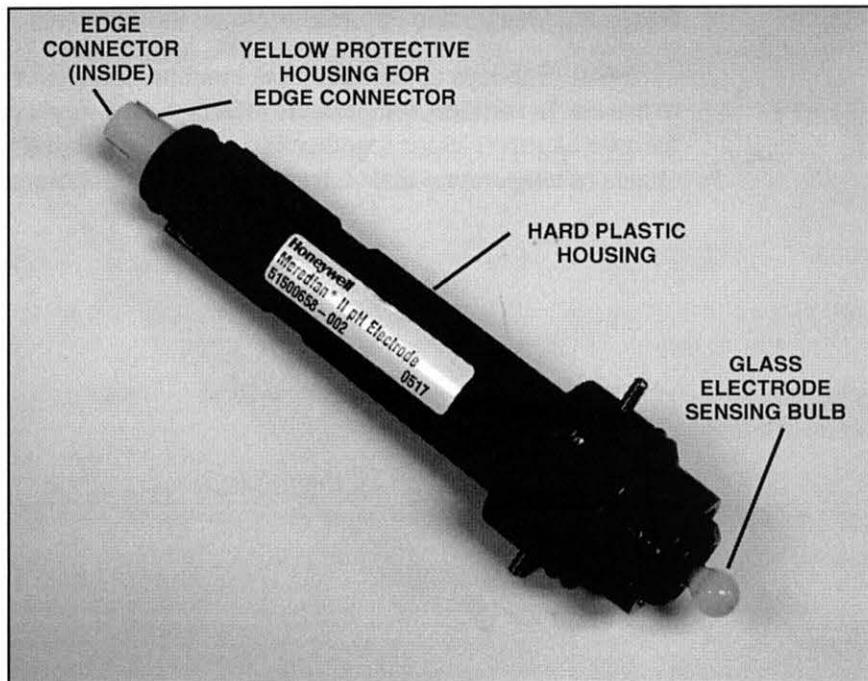

Figure 26. The Honeywell Meridian II Combination Glass Electrode
- 1. Locate a combination glass electrode, like the one shown in figure 26.
The optional combination glass electrode provided with the T5554 is a Honeywell Meridian II combination electrode, shown in figure 26. A hard plastic housing protects the electrode.